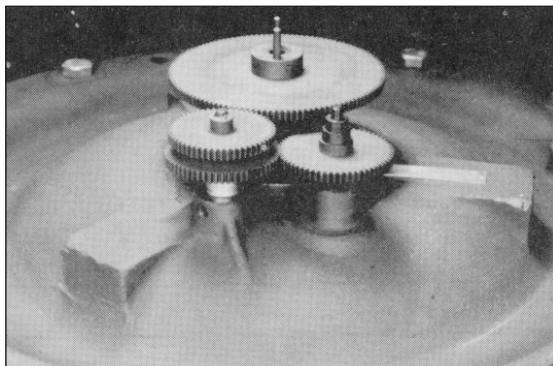

Figure 4 – Series JA10 10" Meter
1. If desired, the cover can be removed and set aside with the packing gland and gears in place. On 10" meters, the gear train is attached to the cover of the inner mechanism. See Figure 4.